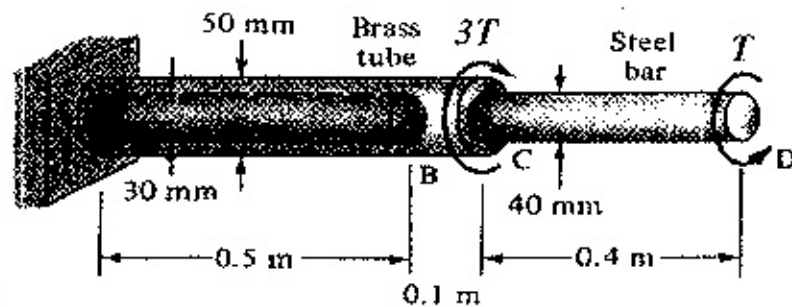

Figure 3
- Q3.** The circular shaft shown in Figure 3 is subjected to torques at C and D of values $3T$ and T , respectively. Determine the value of T if the angle of twist at D is not to exceed 1° , and the maximum allowable shearing stress in the shaft is 70 MPa. Given $G_{brass} = 40 \text{ GPa}$, $G_{steel} = 80 \text{ GPa}$, (15 Marks)